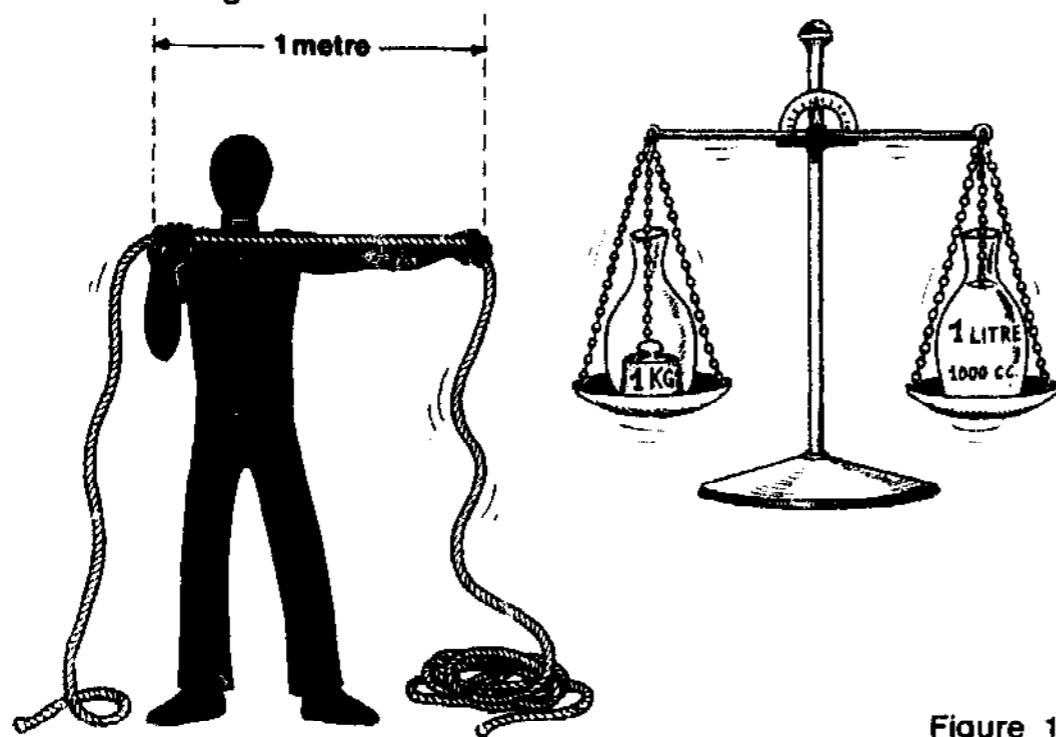

Figure 1
*The measurements in the booklet are all given in the metric system. For the big measurements (like the length of nets or the weight of sinkers) it is all right to say that a metre is the distance from your left shoulder to your right hand (Fig. 1) and that a kilogram is the weight of a 1-litre bottle full of water, if you do not have any better way to find out. For the small measurements you can use the pictures in this booklet. Any time the words real size are written next to a picture, the thing you need to measure should be the same size as the one shown in the picture.*